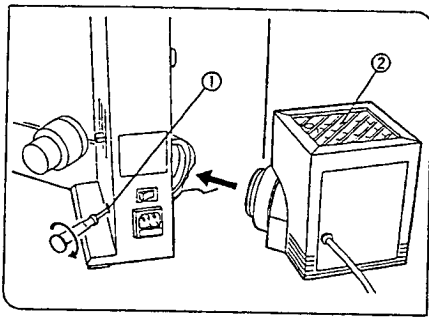

Fig. 11
(Figs. 11,12,13)
1. Using the Allen screwdriver, fully loosen the lamp housing clamping screw ① on the microscope.
2. Insert the lamp housing collector unit into the opening in the microscope frame until it touches the lamp housing mounting collar on the back of the base (lower part), then tighten the clamping screw ①. (Fig. 11)
- ⚠ Attach the lamp housing horizontally with the radiating fin ② upward and make sure to allow ample free space above, below and behind the lamp housing (Fig. 11)